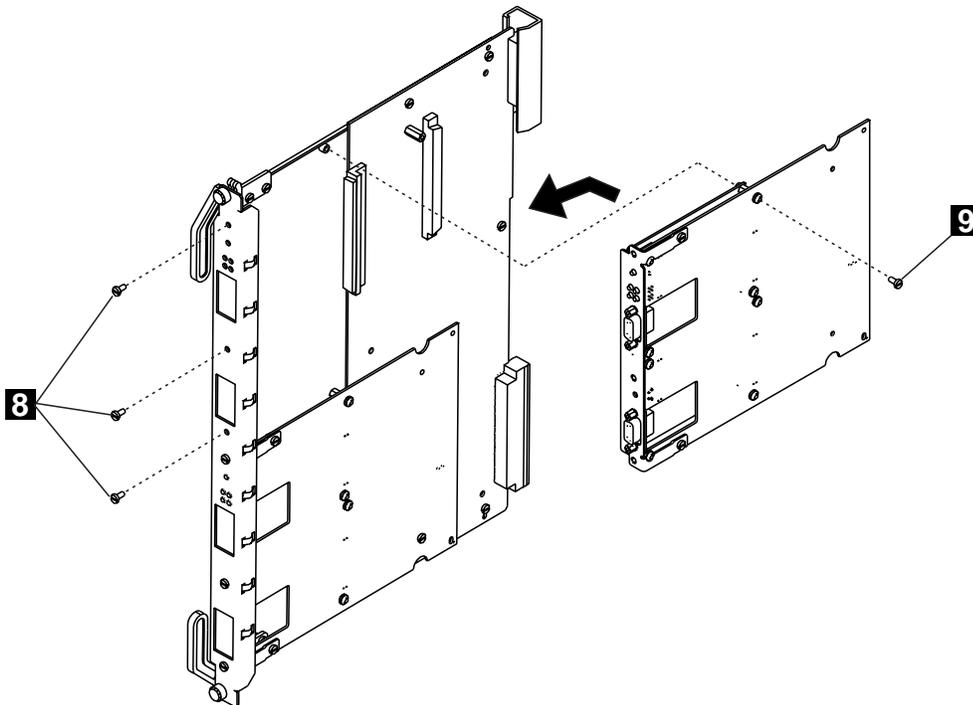

Figure 15. Reattaching the Motherboard
- **10** Reattach the motherboard to the module using the four screws (**8** and **9** in Figure 15) that originally held the motherboard.